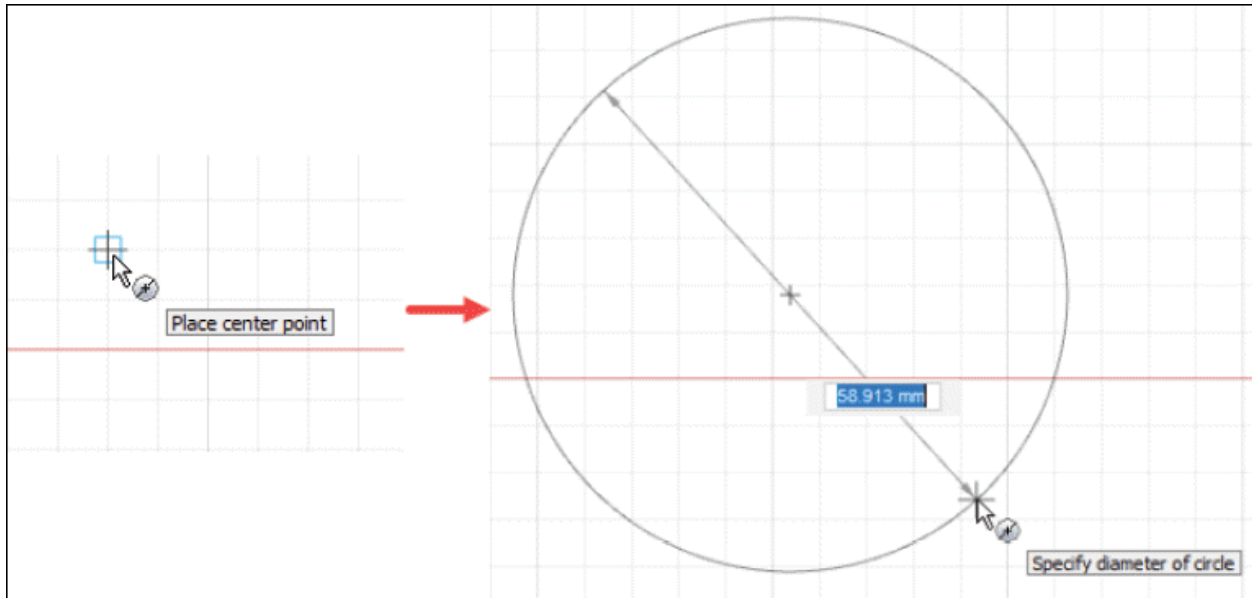

Figure-14. Creation of center diameter circle
- Click to specify the center point for the circle; refer to Figure-14. You will be asked to specify circumferential point of circle to define diameter.